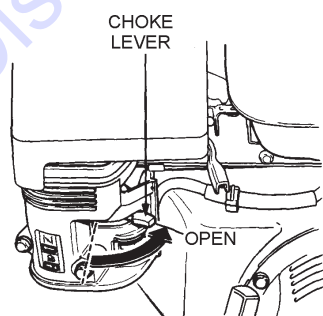

Figure 10. Engine Choke Lever (Open)
3. Place the **choke lever** (Figure 10) in the "OPEN" position if starting a **cold** engine.